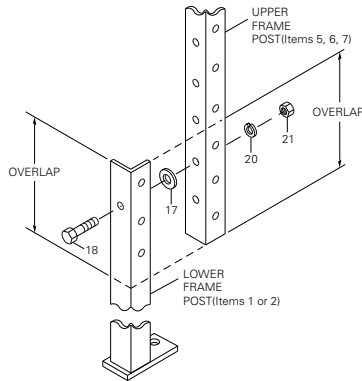

Figure 5. Frame height is determined by the amount of overlap between upper and lower frame posts.
The upper frame posts as assembled to the lower frame posts determine the frame height. The range of frame heights is shown in Figure 1. The amount of required overlap (upper post inside lower post) to obtain the desired frame height is shown in Table 2 and Figure 5.
- At the desired height (from Table 2), attach the upper frame posts (Items 5, 6, 7) to the lower frame posts (Items 1 and 2), as shown in Figure 5 and 6, using a minimum of three bolts at each junction. Locate a spacer (Item 17) between the upper and lower frame posts surfaces as shown in Figure 5.